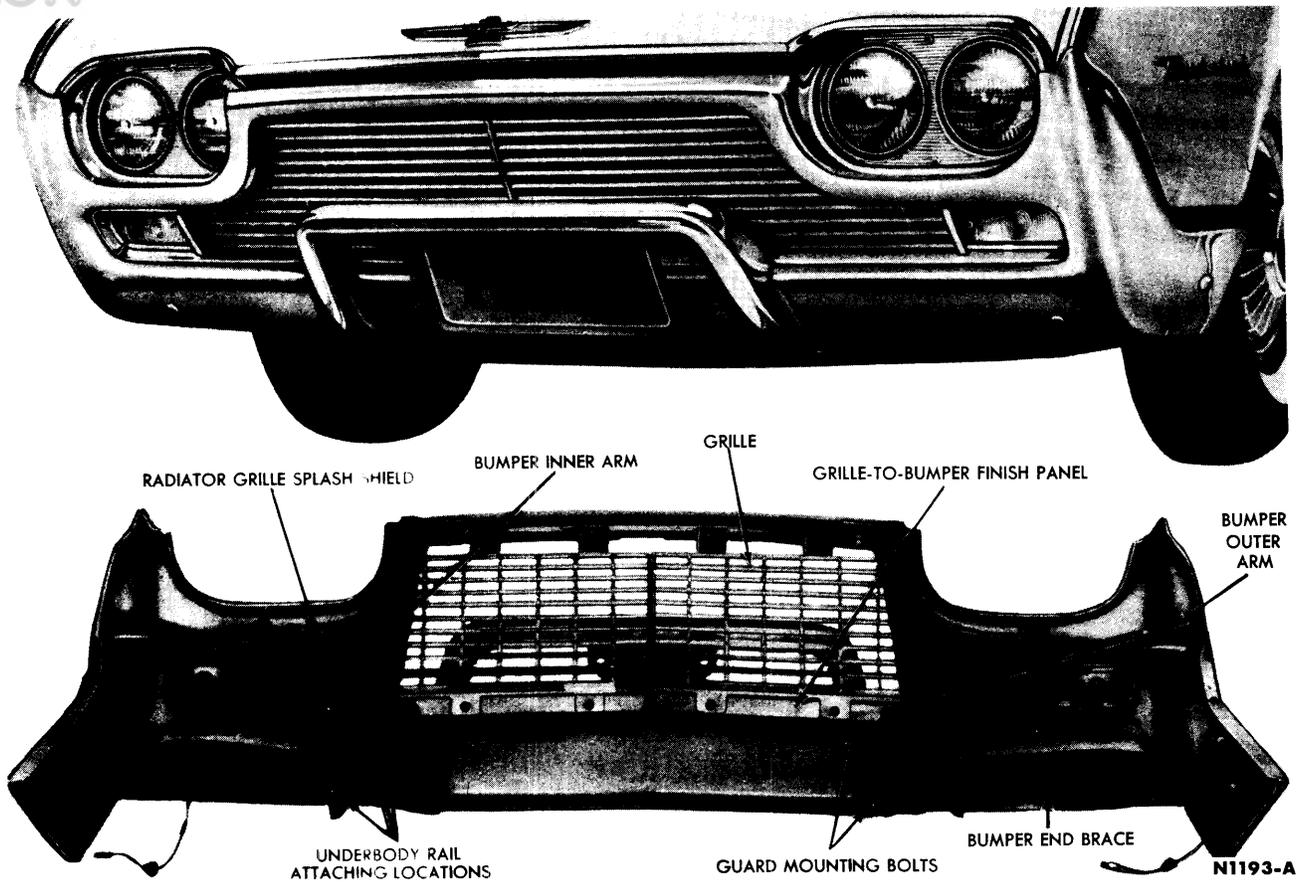

FIG. 3—Grille and Front Bumper
3. Remove the bolts retaining the bumper inner arms and end braces to the underbody rail (Fig. 3) and, with a helper, remove the bumper assembly.